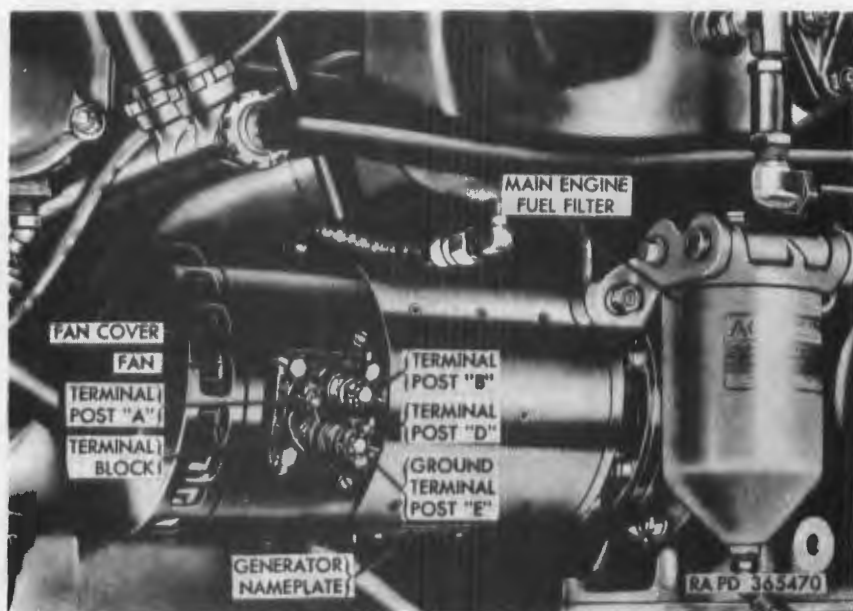

Figure 147. Generator installed on engine.
d. Generator. The main generator is a 4-brush, shunt-field-regulated-type with equalizing circuit and power cables terminating at a terminal block located on the fan end of the generator. The generator is gear driven and mounted on lower right side of the accessory end of the engine (fig. 147). The output of the generator is 150 amperes at 27.5 volts and is controlled by the regulating system in the generator regulator box (*e* below) at engine speeds above 1,800 rpm.
(fig. 147)